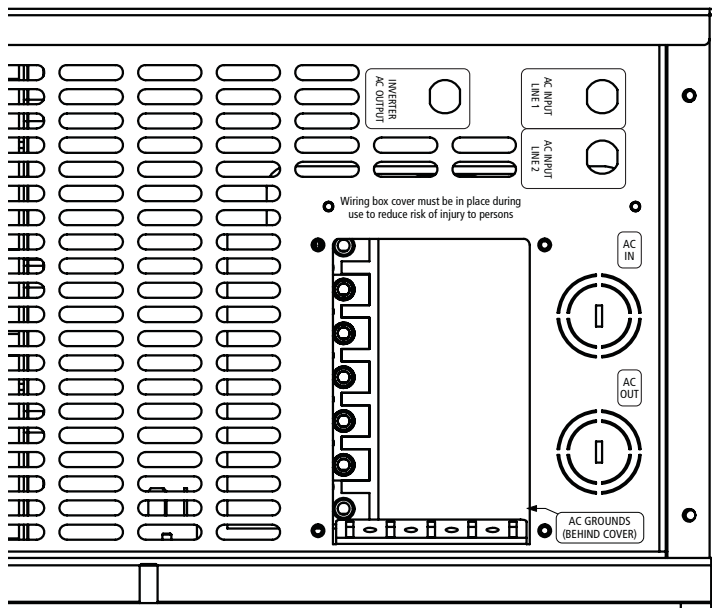

Figure 4 AC Wiring Compartment
AC Wiring Compartment For your reference, the AC wiring compartment is shown in Figure 4 on page 24.
Figure 4 shows the wiring compartment, which contains a grounding bus (used to wire the AC input and output ground wires) and a terminal block (used to wire the AC input and AC output connections).
8. Connect the line and neutral wires to the input terminals (labeled AC Input on the terminal block, Figure 4 on page 24). Connect Line 1 to L1, Neutral to N, Line 2 to L2.
10. Connect the ground wires to a free position on the ground bus, Figure 4 on page 24. If solid ground wire is being used, the wire can be connected directly under the screw heads. If stranded ground wire is being used, ring terminals must also be used.
5. Connect the line and neutral wires to the output terminals (labeled AC Output on the terminal block, Figure 4 on page 24) as follows:
7. Connect the ground wires to a free position on the ground bus, Figure 4 on page 24. If solid ground wire is being used, the wire can be connected directly under the screw heads. If stranded ground wire is being used, ring terminals must also be used.